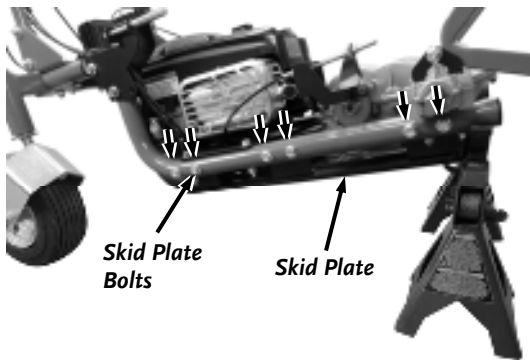

Figure 46
4. Remove the twelve (six per side) Skid Plate Bolts at the sides of the Frame using a 9/16" Socket with Ratchet and Extension (**Figure 46**).